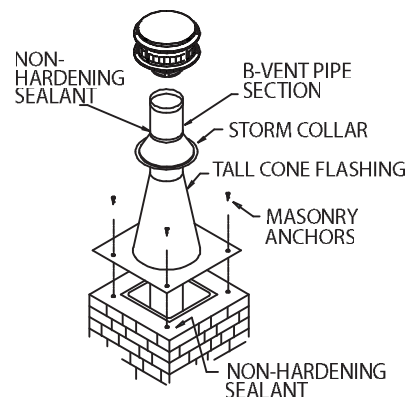

Figure 28
**(d). Flex Pipe Assembly.** Assemble first Rigid Pipe Section to the Flex Pipe, insuring that the "UP" arrows are in fact, pointing up. Push the sections together and twist to lock. Screws are not required, however if you desire to use them, use #8 sheet metal screws 1/4-inch long, being careful to not penetrate the inner liner. Repeat this process for the remainder of the Pipe Sections, and lower the assembly down the chimney. Lower it below it's normal position as shown in **Figure 28**.
non-hardening sealant to secure the flashing to the masonry (**Figure 28**).
**(i). Termination Cap.** Install the Termination Cap as shown in **Figure 28**. This concludes the procedures for installing a gas fireplace in an existing masonry fireplace. Conduct a final inspection of the system, and verify that you have complied with the manufacturer's installation instructions.
(f). **Flashing.** Bend and trim the base of the Tall Cone Flashing so it fits onto the top of the masonry chimney. Use masonry anchors and non-hardening sealant to secure the flashing to the masonry (**Figure 28**).